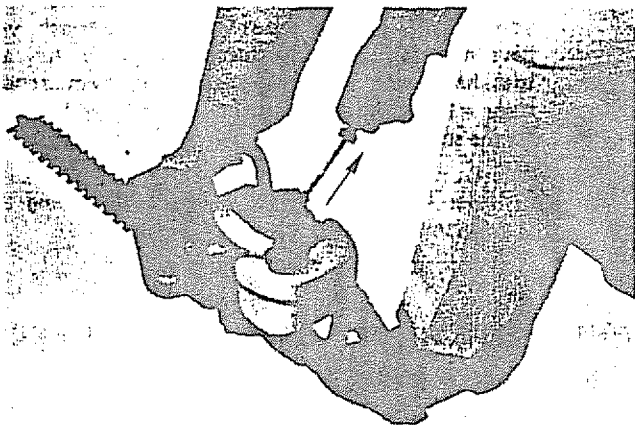

Figure 4
- Pull the recoil starter several times. (At this time, hold the machine securely so as to keep it fixed.) (Figure 4)